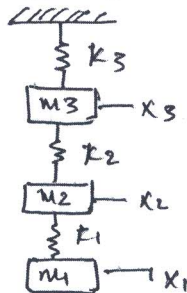

Fig.Q9
- 9 Using Holzer method, find the natural frequencies of the system as shown in Fig.Q9. Assume $m_1 = m_2 = m_3 = 1 \text{ kg}$ and $K_1 = K_2 = K_3 = 1 \text{ N/m}$.